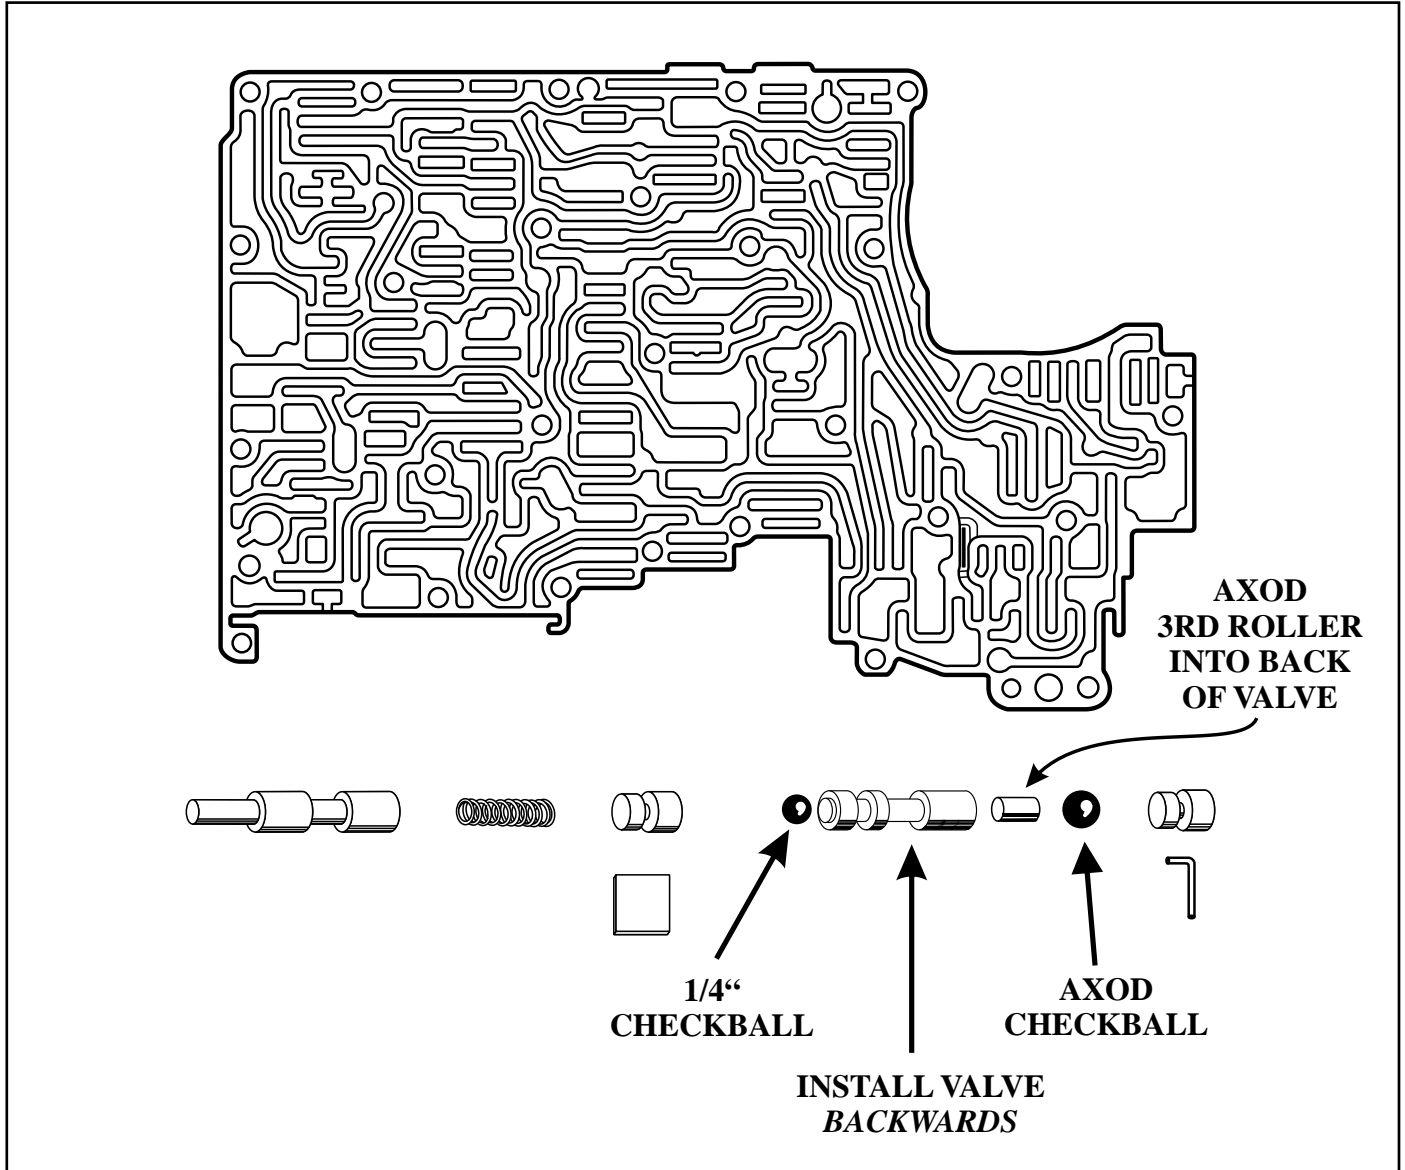

Figure 2
- (4) Install 1/4" steel checkball against the bore plug (See Figure 2).
- (5) Reinstall the reverse engagement control valve **backwards** as shown in Figure 2, against the steel checkball.
- (6) Install AXOD checkball against the reverse engagement control valve, as shown in Figure 2.
- (7) Reinstall the bore plug and "L" shaped retainer (See Figure 2).